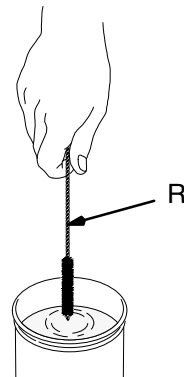

Fig. 19
4. Soak the air cap, detent plate and fluid nozzle in solvent. Clean the air cap and fluid nozzle daily, minimum, with solvent and a brush (R). See Fig. 19. Some applications require more frequent cleaning. Keep all the air cap holes clean.